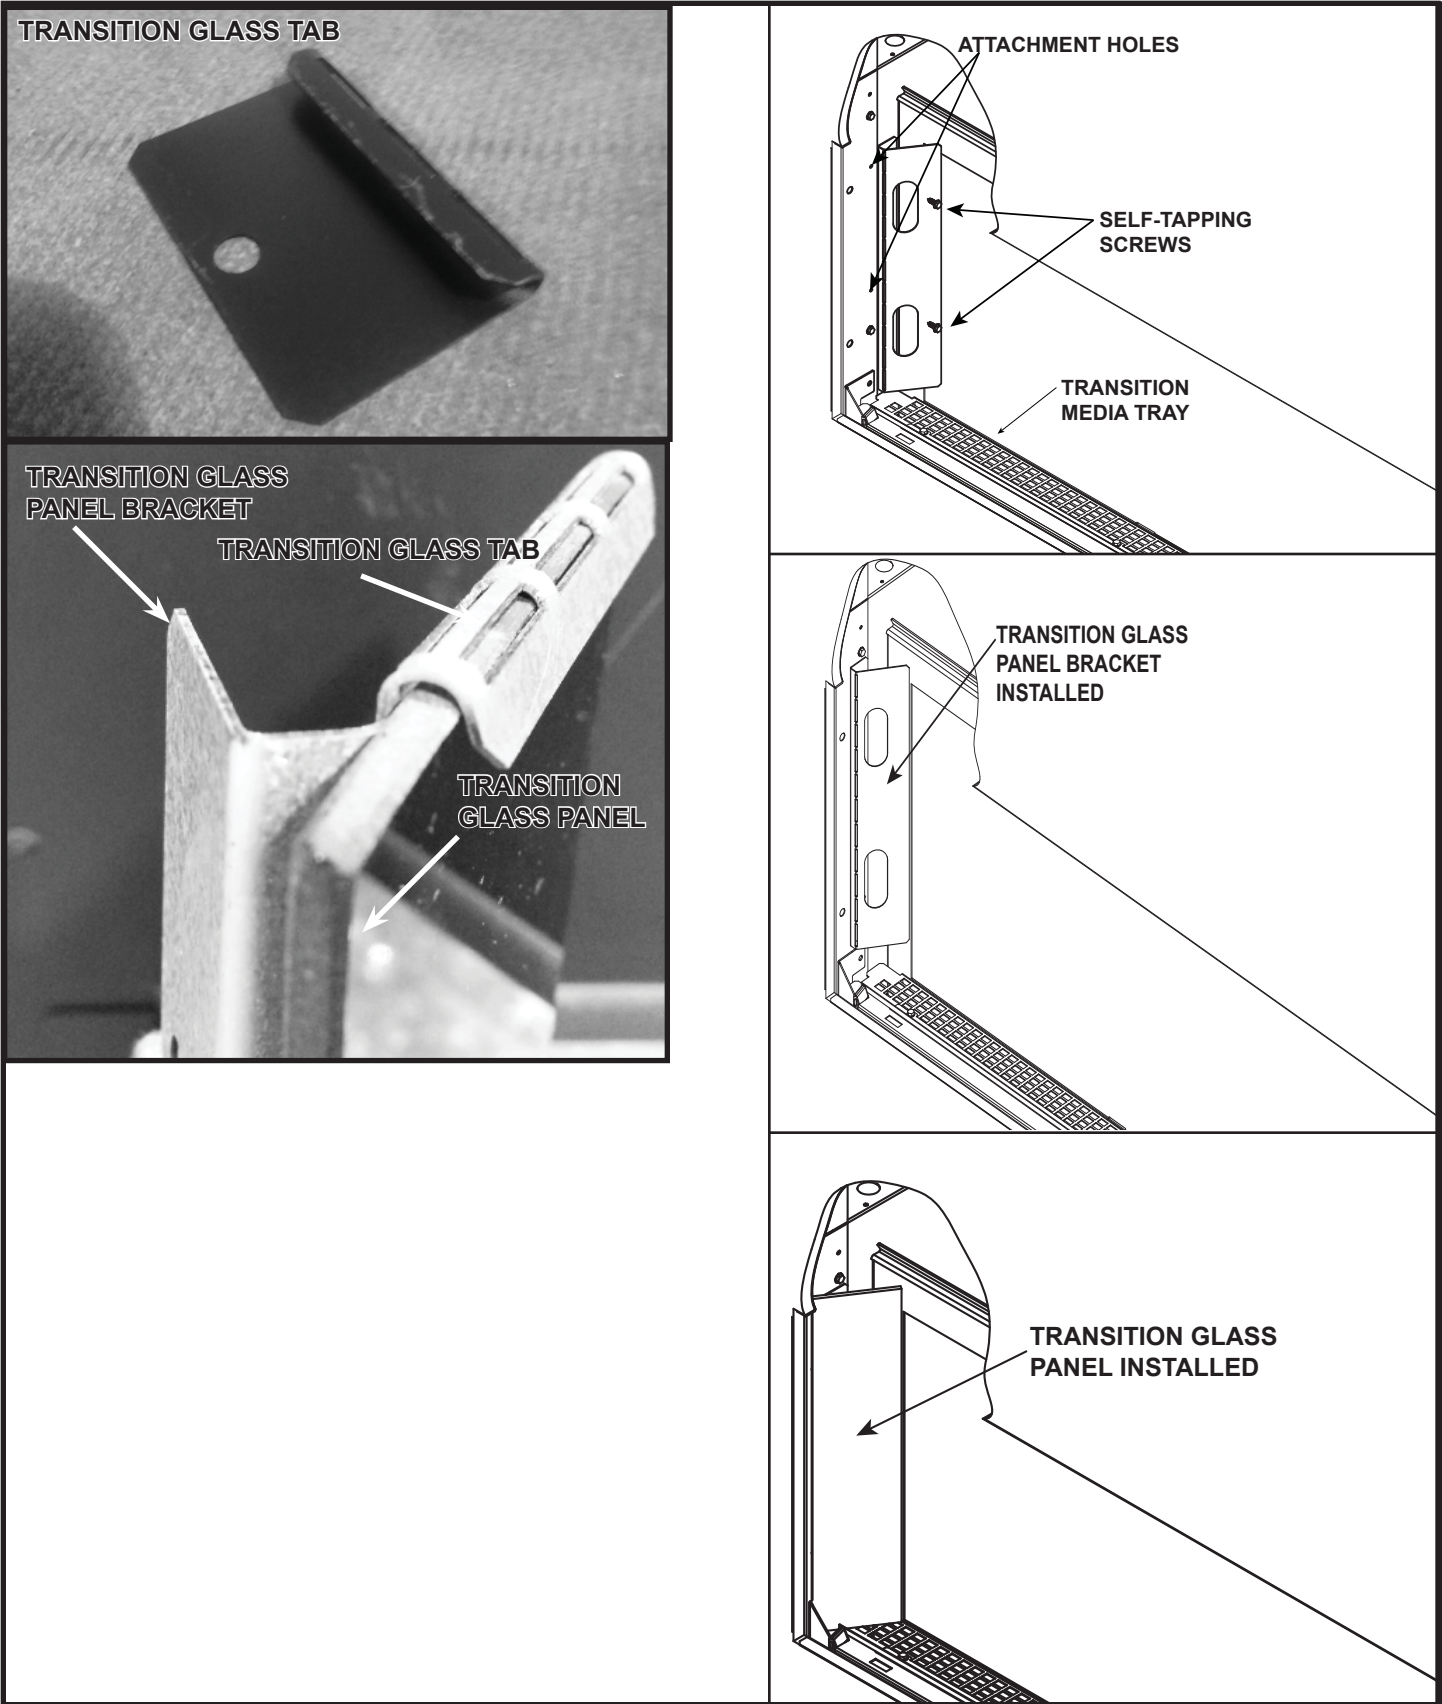

Figure 10.16 Install Transition Glass Panel
- Set transition media tray into position as shown in Figure 10.16. The return bends are at the bottom of the tray. The rear return bend should be positioned in between the glass frame and the glass frame bracket. Ensure tray is positioned flush with appliance opening.
- Install transition glass panels by securing with tabs on left and right sides of appliance. See Figures 10.16 and 10.17.